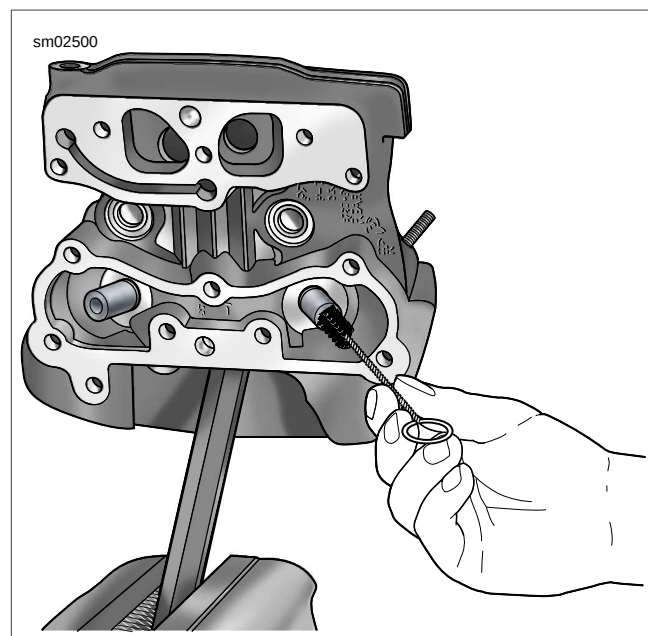

Figure 3-49. Scrubbing Valve Guide Bore
7. See Figure 3-49. Clean valve guide bore with the VALVE GUIDE CLEANING BRUSH (Part No. HD-34751).